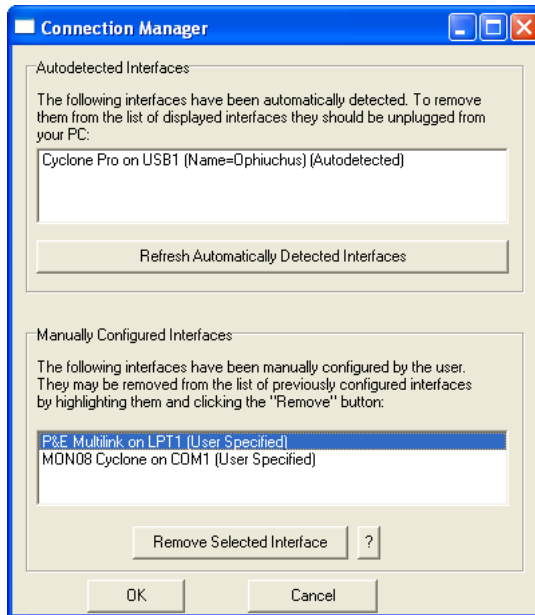

Figure 8-13: Remove A Manually Configured Multilink/Cyclone Pro Interface
6. To remove a manually configured interface, please click on the “Remove Connection” button and choose the interface to be deleted. See **Figure 8-13**.